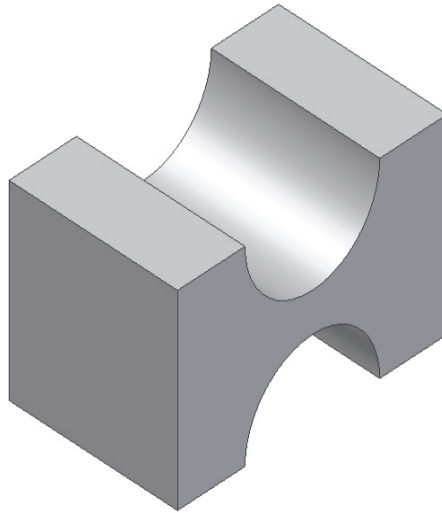
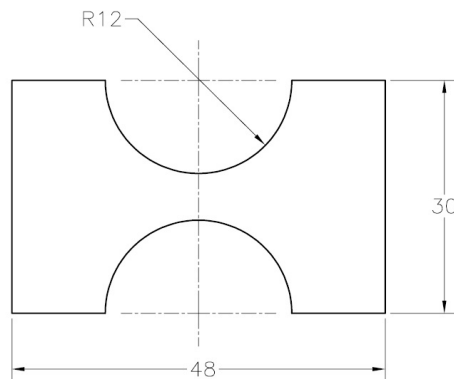

Figure 2-70 Model for Tutorial 3
Figure 2-71 Sketch for Tutorial 3
In this tutorial, you will draw the sketch for the model shown in Figure 2-70. The sketch of the model is shown in Figure 2-71. Do not dimension the sketch as the dimensions are given only for reference. **(Expected time: 30 min)**
- Draw the sketch by using the **Arc** and **Line** tools, refer to Figure 2-71.